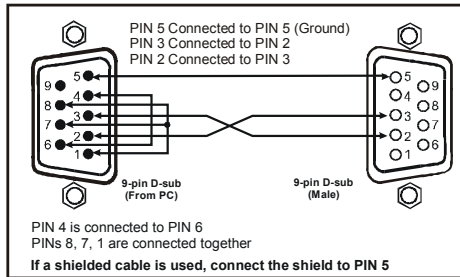

Figure 4: Connecting a PC without using a Null-modem Adapter
- Connect the RS-232 9-pin D-sub port on your PC to the RS-232 9-pin D-sub rear panel port on the **VS-81HD** unit, as Figure 4 illustrates